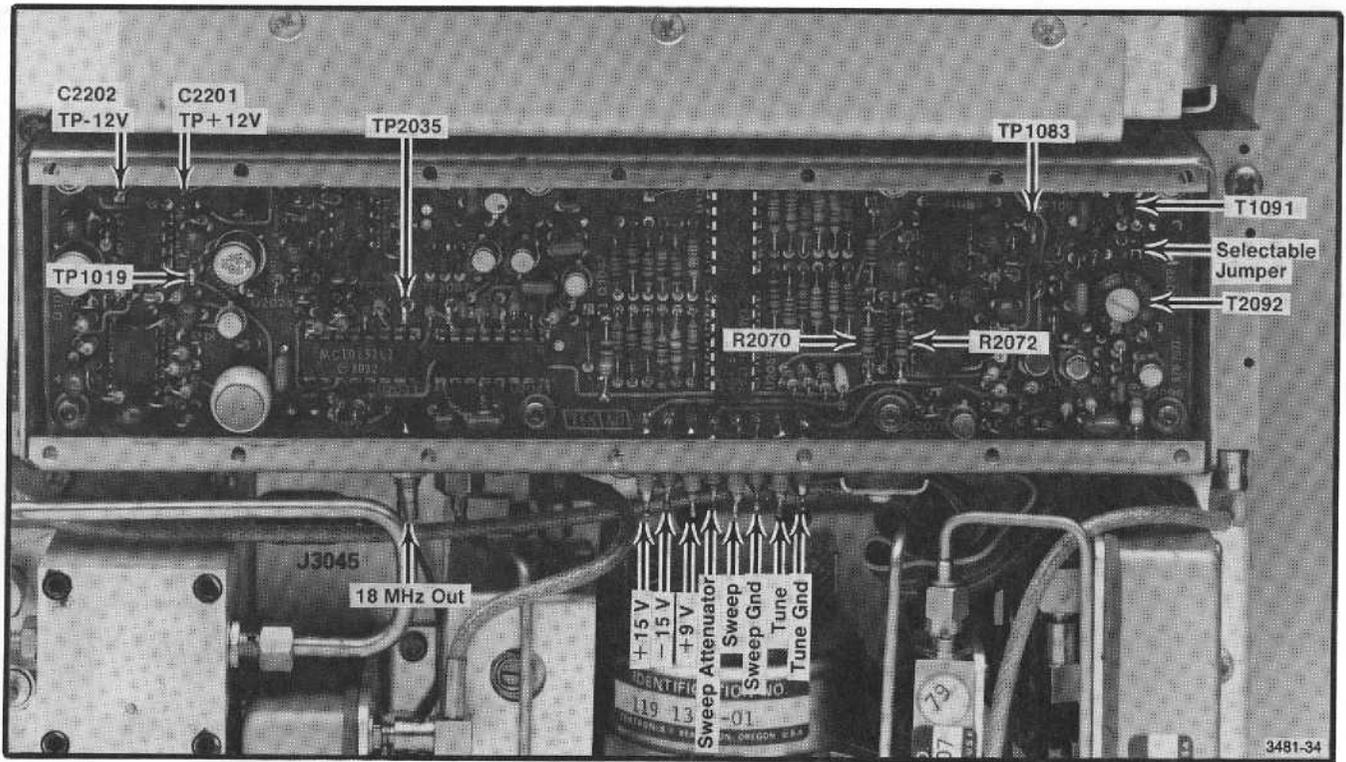

Fig. 4-16. Adjustments and test point locations on the 16-20 MHz phaselock board.
b. Turn on the power to all instruments. Check that the Phaselock light is off and proceed to measure the voltages at the feedthrough capacitors in the housing wall. Refer to Fig. 4-16 or the housing lid to identify the feedthroughs.
a. This step adjusts the 16–20 MHz Phaselock board. To gain access to this board, remove the mu-metal lid of the 2nd LO assembly. Save the 14 screws in a secure place. Refer to Fig. 4-16 for component locations.
f. Press Δ Frequency. Increase FREQUENCY by exactly 14 comb lines. If the Δ Frequency readout display is 2910 kHz or greater, refer to Fig. 4-16, then replace two resistors on the circuit board. Replace R2072 with a 3.24 k Ω resistor and replace R2070 with a 2.8 k Ω resistor. If the readout is 2690 kHz or less, replace R2072 with a 2.8 k Ω resistor and R2070 with a 3.24 k Ω resistor. This step leaves the 2nd LO at the end of its tuning range.
h. The shaper circuit needs adjustment if the peak-to-peak error is greater than 2.5 minor divisions. This circuit is on the 16–20 MHz Phaselock board; refer to Fig. 4-16 for component locations. Temporarily replace R2049 with a 20 k Ω resistor. Adjust this test resistor to minimize variation in comb line spacing across the tuning range of the 2nd LO. Decreasing the resistance will bring the comb lines closer together in the upper portion of the tuning range and spread the comb lines in the lower portion of the tuning range. Increasing the resistance will reverse this effect. Comparing the comb line spacing in the upper and lower tuning limits will expedite this adjustment. When the correct setting is found, remove the test resistor, measure the resistance, and replace with a fixed resistor of the same value.
i. A shaper diode may be defective if the comb line spacing is consistent for part of the tuning range and 3 minor divisions off for the rest of the tuning range. To test the tuning diodes for forward conduction, tune the 496/496P to the low end of the 2nd LO tune range and short R2049. (Refer to Fig. 4-16.) Pin 1 of U1073A, the output of the first shaper amplifier, should be approximately +3 volts. U1059 diodes B through G and U2059 diodes A through F should all have a 0.48 volt forward drop. A floating or differential voltmeter should be used since the diodes are not at ground potential.